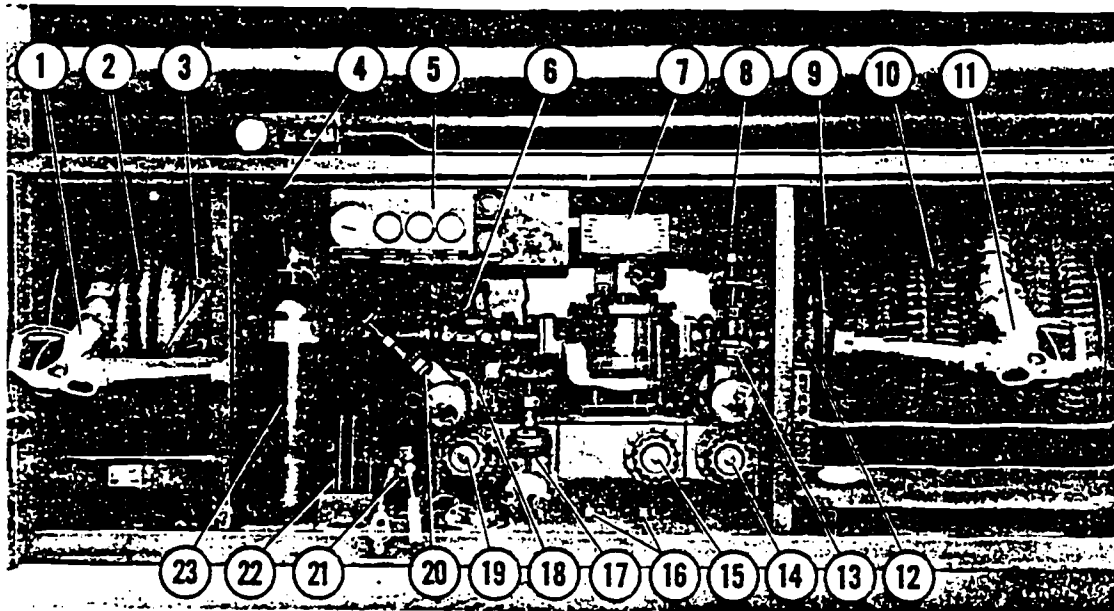
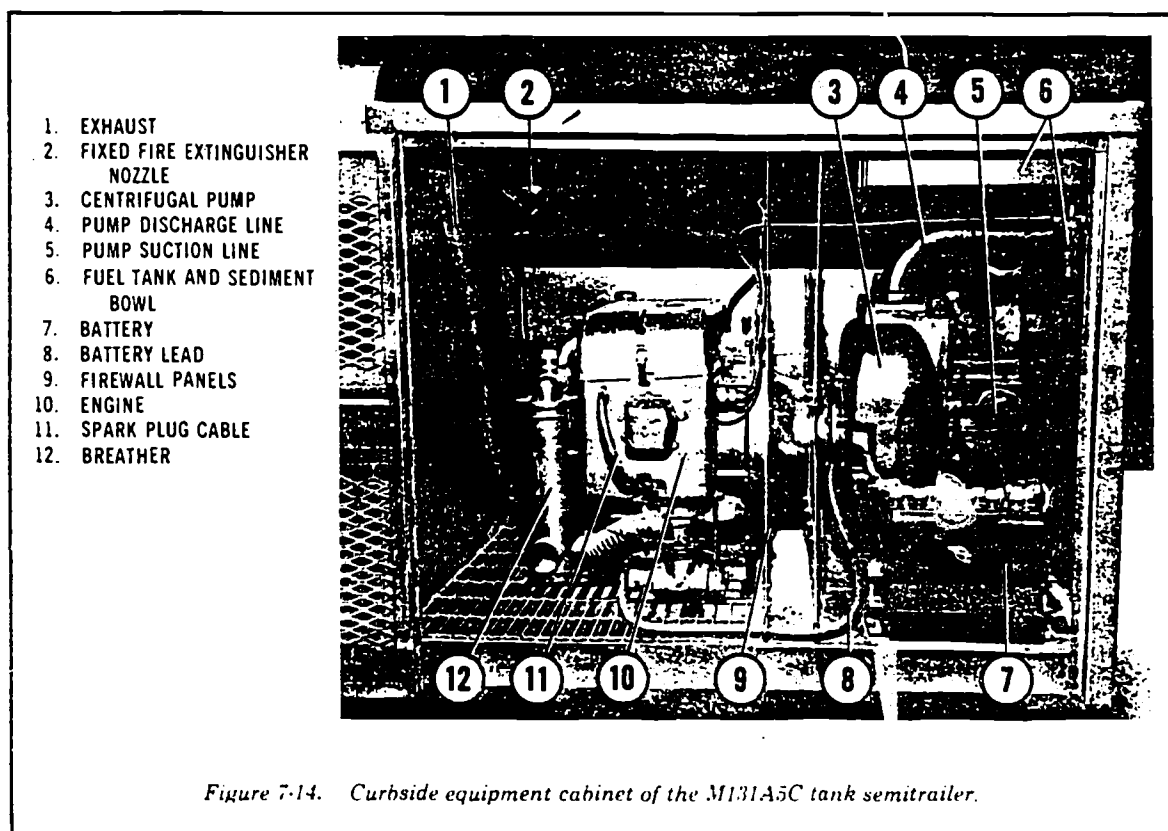

Figure 7-13. Roadside equipment cabinet of the M131A5C tank semitrailer.
Figure 7-14. Curbside equipment cabinet of the M131A5C tank semitrailer.
is reached by a ladder at the rear of the vehicle and gives access to the manhole covers. There are two equipment cabinets mounted on each side of the tank vehicle (figs 7-10 and 7-11). These cabinets hold the semitrailer discharge and loading system. The components of this system, located in the roadside equipment cabinet, are indicated on figure 7-13. Figure 7-14 shows the system components located in the curbside equipment cabinet. A hose compartment is also mounted on the tank body above the roadside equipment cabinet (fig. 7-10). The hose compartment is horizontally divided into three tubes which house three 15-foot lengths of suction hose and a gage stick.
□ **Auxiliary engine and pump assembly.** The pump and engine assembly is located in the curbside cabinet (fig 7-14). It is used to pump product into or out of the compartments. The assembly has a two-cylinder, four-cycle, horizontally opposed, air-cooled engine and a self-priming 225-gpm centrifugal pump. The pump is connected directly through a shaft mounted on a bearing. The engine and pump are separated by a firewall.
□ **Dispensing hose and reels.** The M131A5C tank semitrailer has a 2 1/2-inch and a 1 1/2-inch dispensing hose reel. Both reels are stored in the roadside equipment cabinet (fig 7-13). The 2 1/2-inch dispensing hose reel holds a 50-foot section of 2 1/2-inch dispensing hose. This hose has a 2 1/2-inch nozzle and its discharge capacity is 225 gpm. The 1 1/2-inch dispensing hose reel holds a 50-foot section of 1 1/2-inch dispensing hose. This hose has a 1 1/2-inch nozzle and is used for low-rate discharge (0 to 55 gpm).